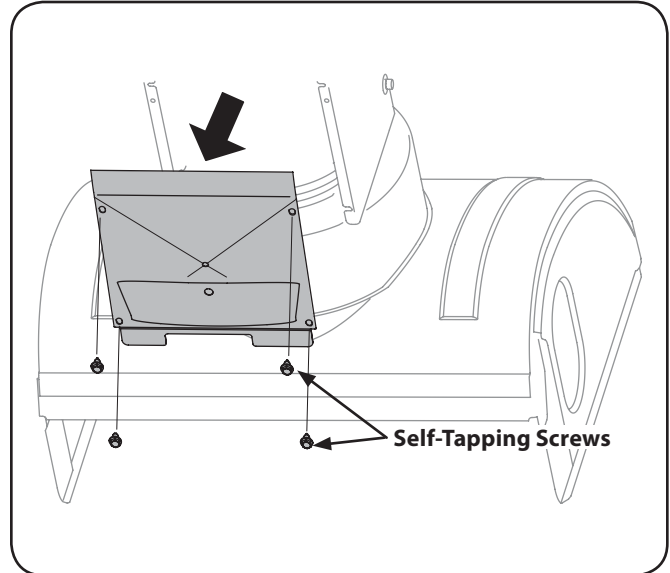

Figure 7-2
4. Remove the frame cover from the underside of the snow thrower by removing the self-tapping screws which secure it. See Fig. 7-2.